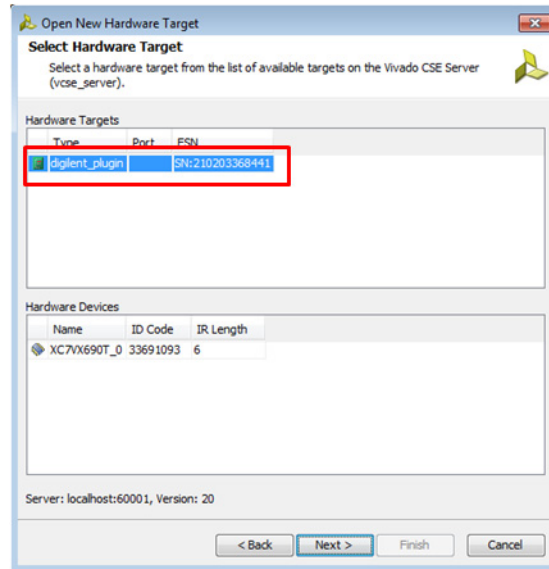

Figure 20: Select Hardware Target
- Select the appropriate target as shown in Figure 20.